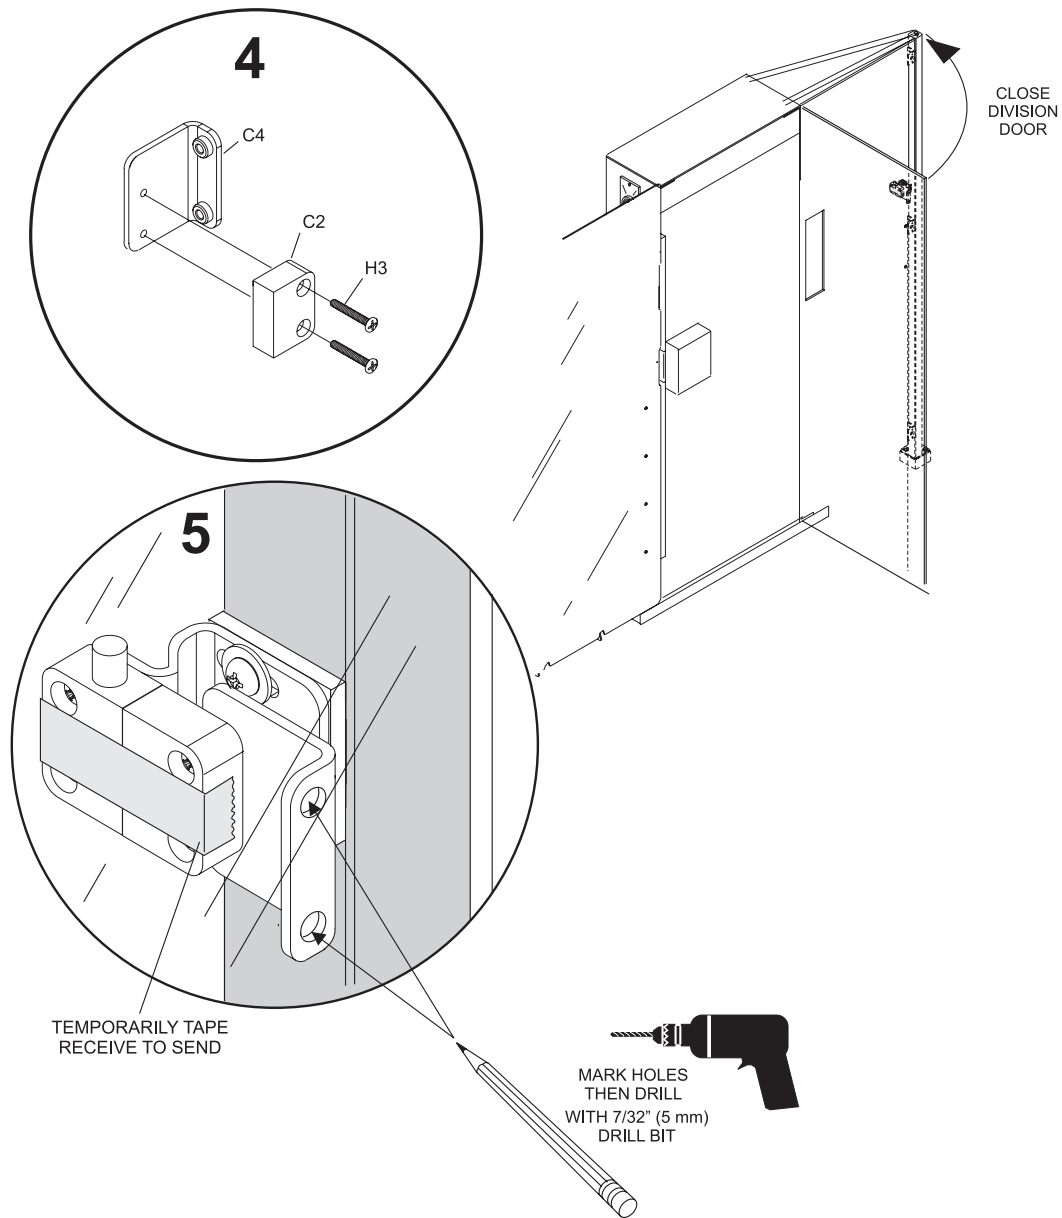

Figure 2
1. Assemble Receive Interlock to bracket. Refer to *Figure 2*.